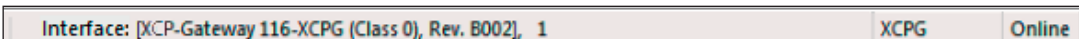

Fig. 5-18: Status bar: "XCP Gateway" interface
- ☞ If an interface is displayed in the status bar of the program window (Fig. 5-18), proceed with chapter 5.3.3.4 "Creating a new configuration file".